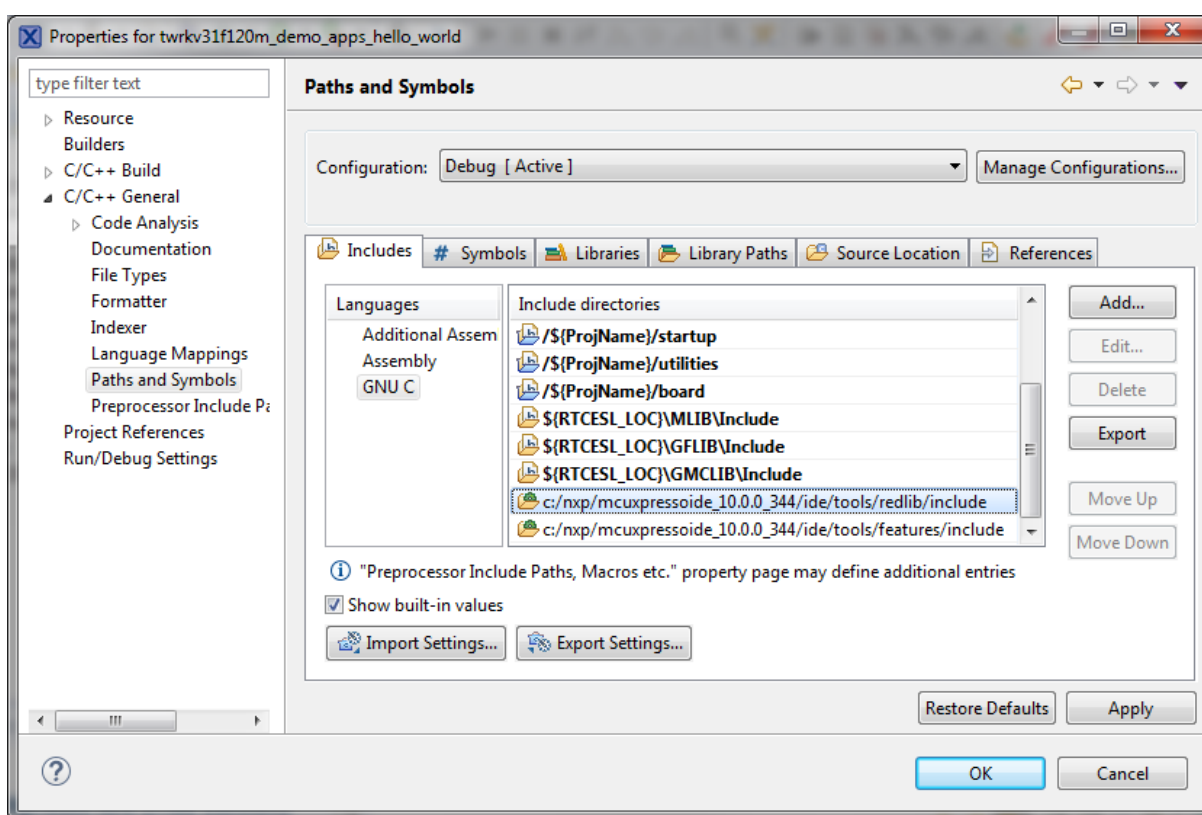

Figure 1-11. Compiler setting
19. In the right-hand dialog, select the Includes tab, and click GNU C in the Languages list. See Figure 1-11.
26. Click OK, and you will see the paths added in the list. See Figure 1-11. Click OK.